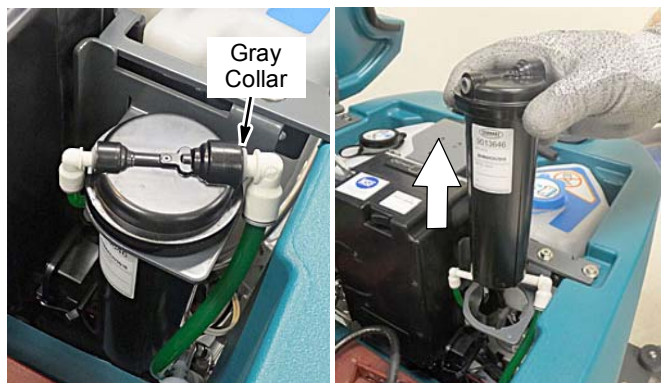

FIG. 91
3. Disconnect the two hose connectors from the top of the cartridge by pressing the gray collars inward and pulling the connectors outward (Figure 91). Lift cartridge to remove.